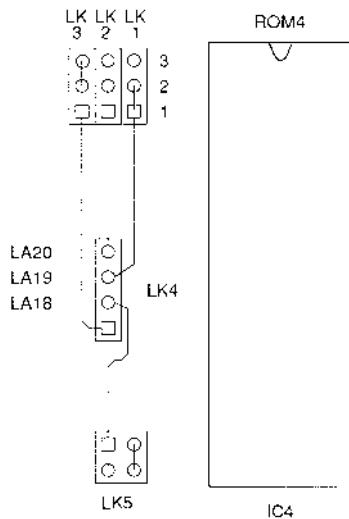

Figure 8 Links for RISC OS 3, 4Mb ROMs
- 7 If you have inserted the new **4Mb** ROMs provided in the RISC OS 3 software upgrade, you need to fit the plastic shunts to the daughter board as shown in Figure 8 below. Remove the shunts from LK12 on the mother board.